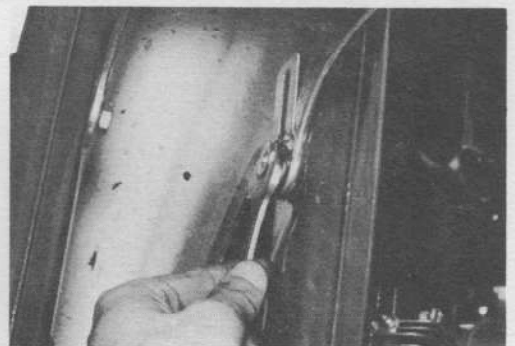

Fig. 4-6
5. Take off the front suspension unit upper bolts. (Fig. 4-6)